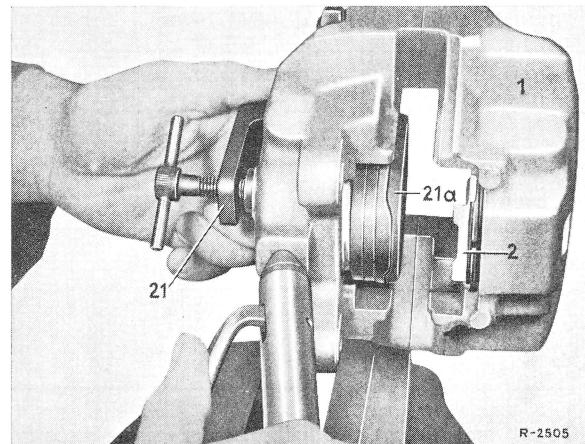

Fig. 6
5 Position clamping fixture (21) in caliper (1) in such a manner that the rubber plate seals the bore. Then press second piston out of caliper (Fig. 6).